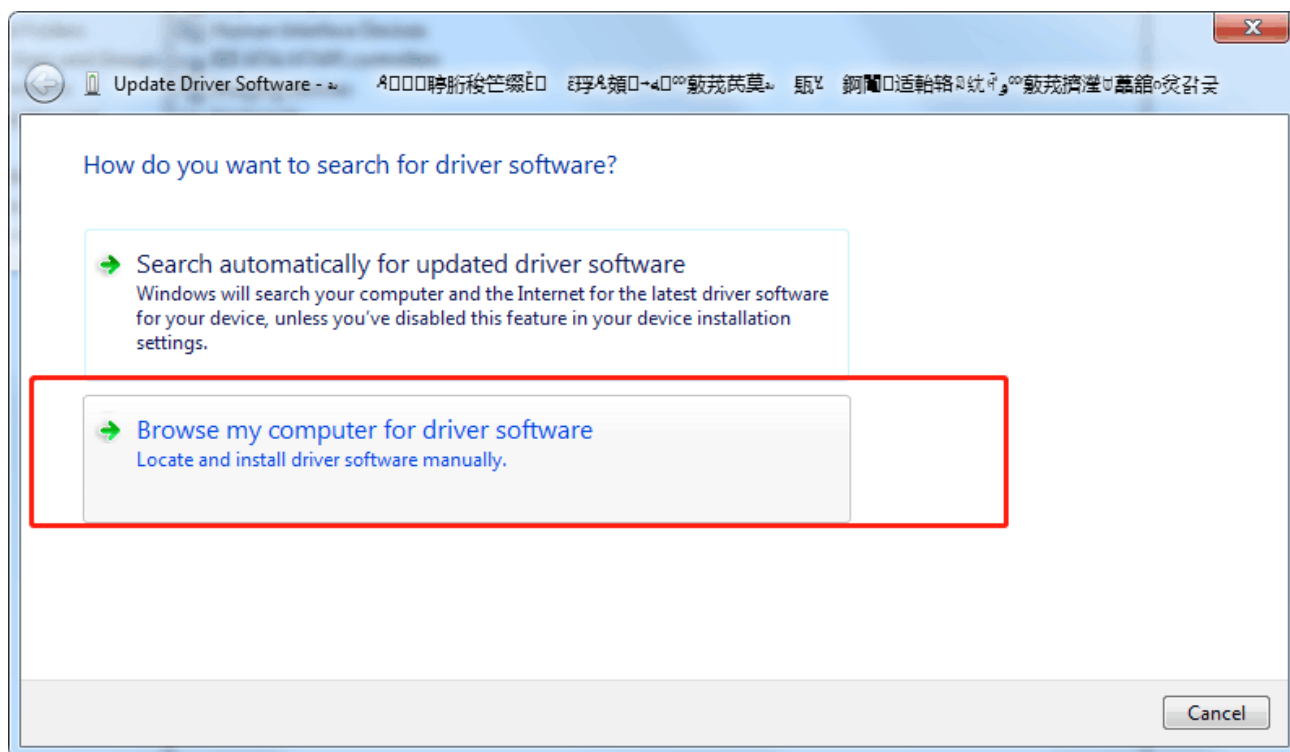
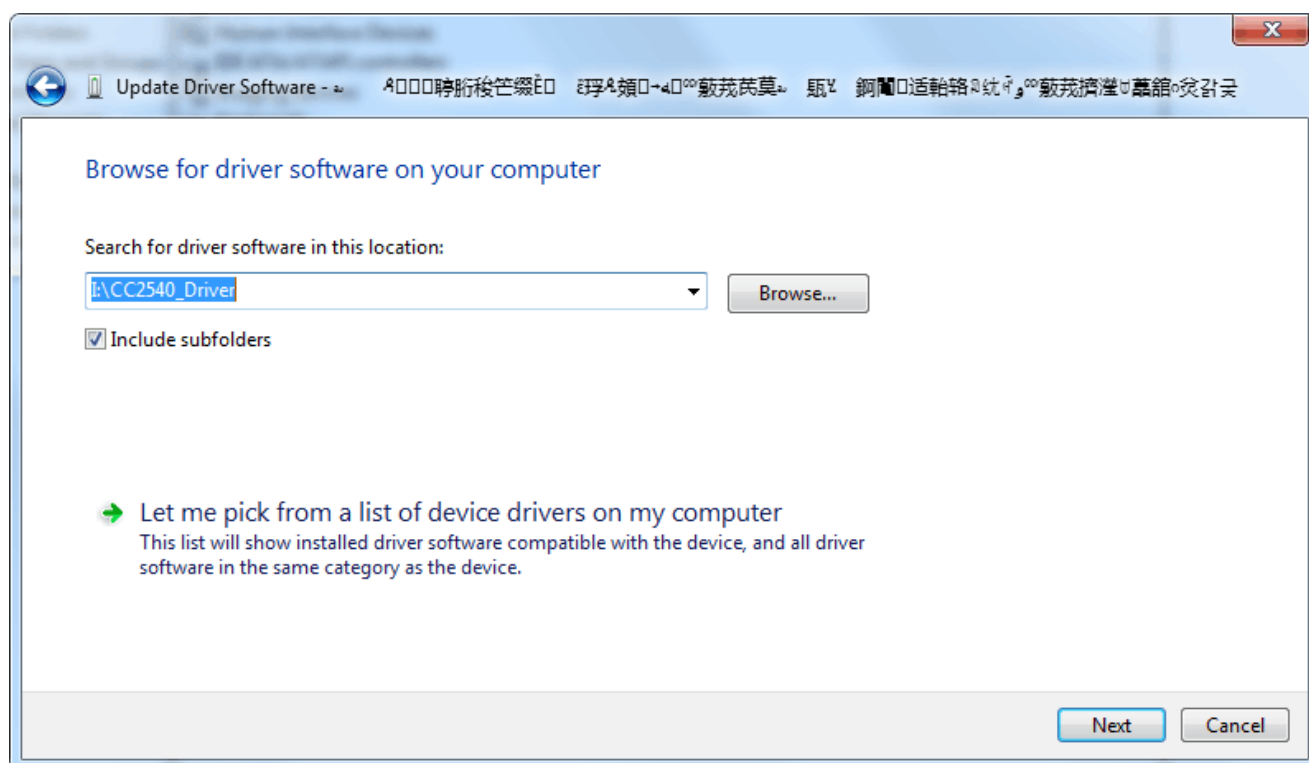

Figure 1.4
Figure 1.5
- 4) Click "browse the computer to find driver software" as shown in figure 1.4, and click "browse" as shown in figure 1.5